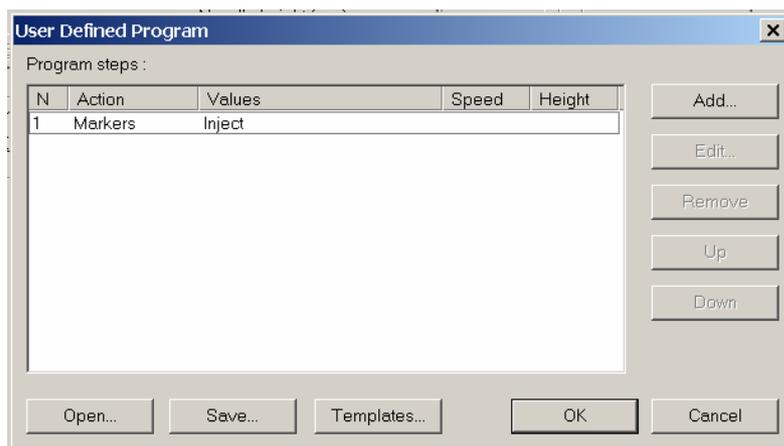

FIGURE 3-11 Inject Marker to start the RP Micropump
- b) Program the 'Markers' output (P4) as presented in FIGURE 3-11.